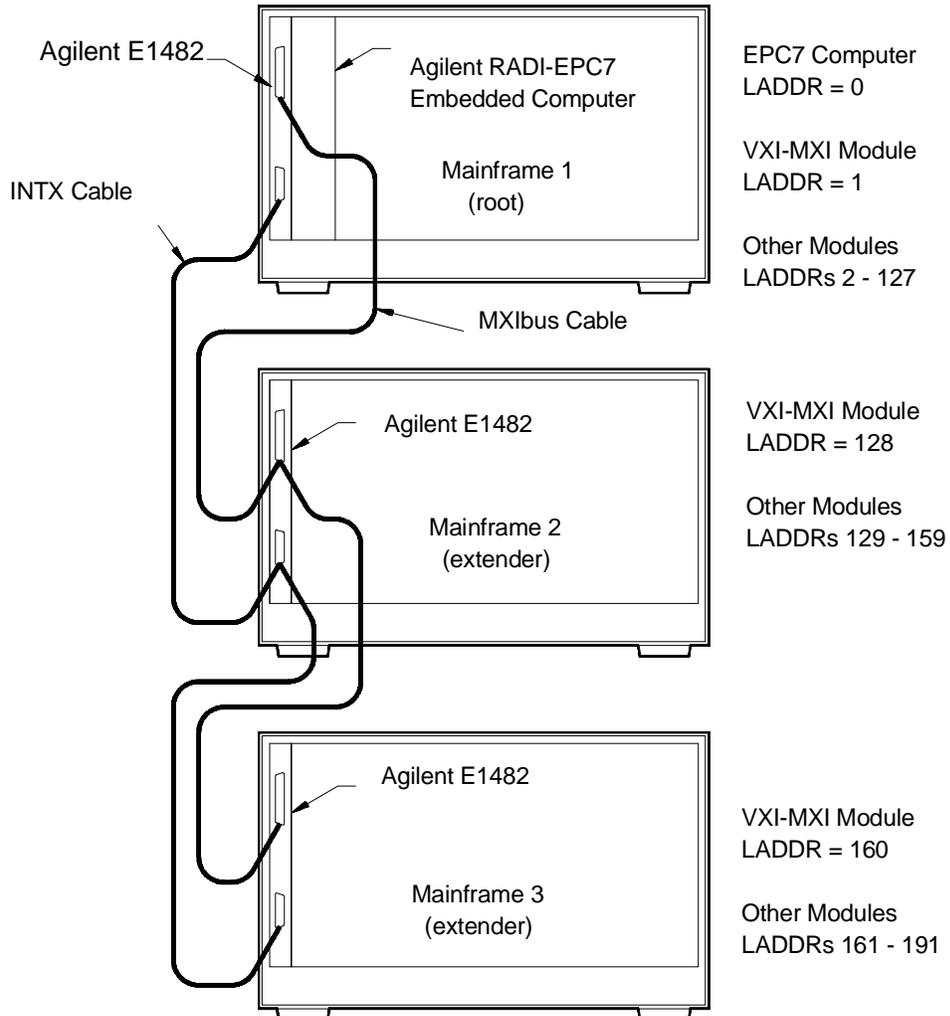

Figure 3-17. EPC7 Embedded Controller, 3-Frame
- 3-Frame - RadiSys EPC-7 (Figure 3-17)